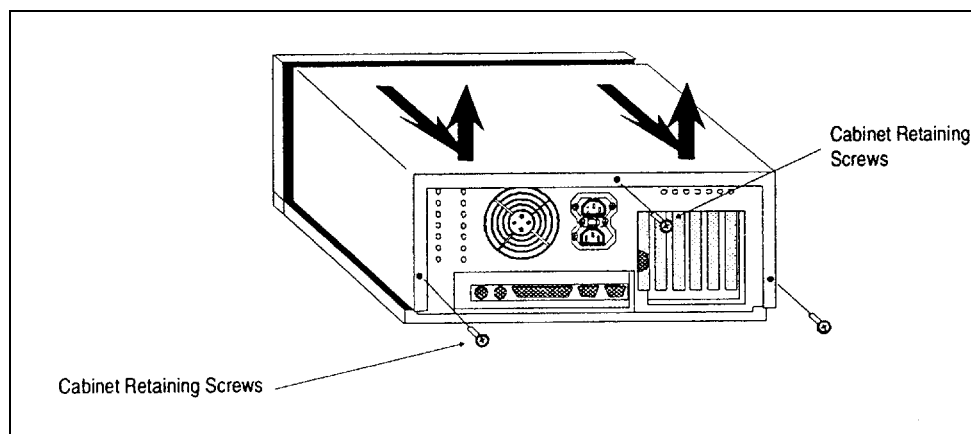

Figure 2-2. Removing the NCR 3333 Cover
2. Remove the computer cover by turning the system keylock to its unlocked position, removing the three retaining screws (Figure 2-2) and sliding the cover back and then upward.